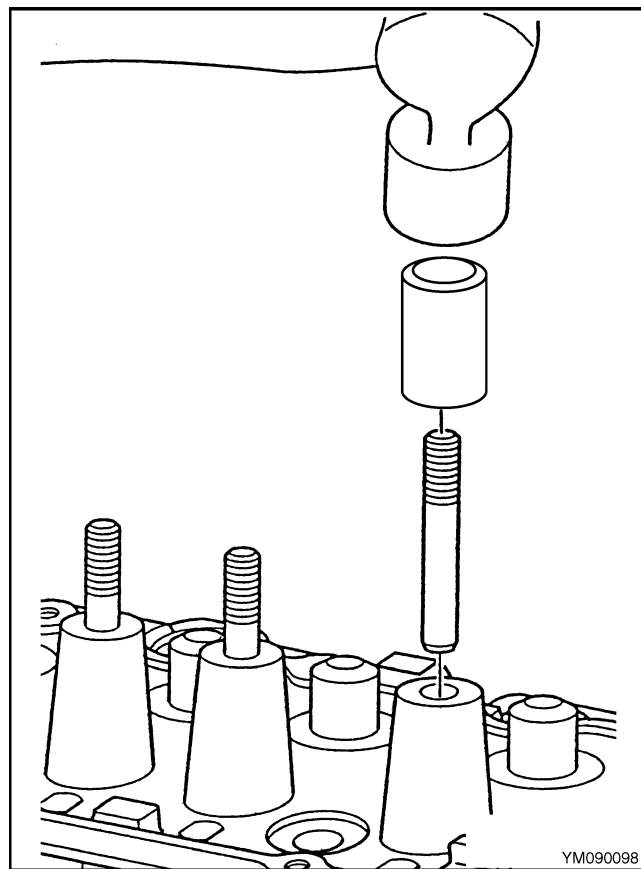

Figure 18. Stud Installation
3. Install the new stud as shown in Figure 18.